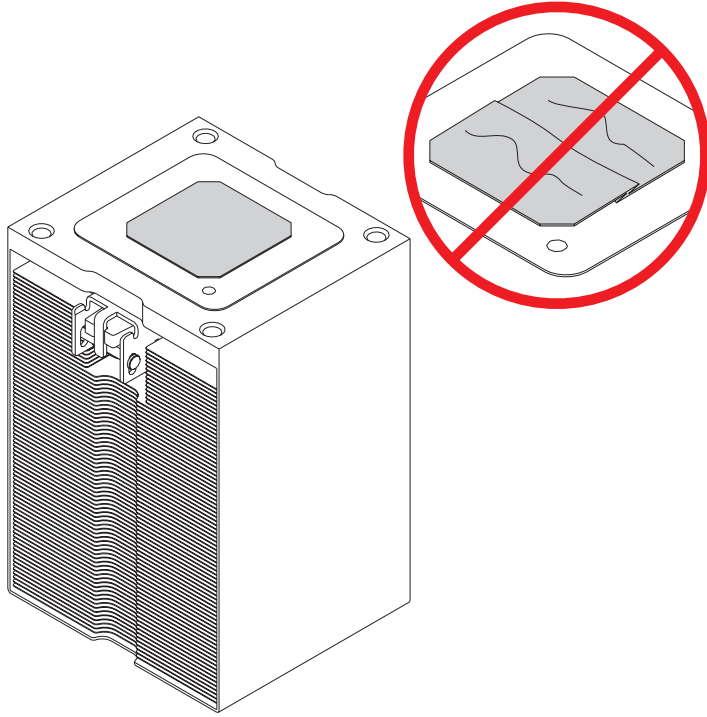

Figure 8. Inspecting the thermal interface material
2. Inspect the thermal interface material (TIM) for visible signs of damage. The expectation is that when the heat sink is removed from the failed processor module, the TIM is attached to the heat sink. Unless damaged, the TIM attached to the heat sink can be reused. See Figure 8 on page 10.